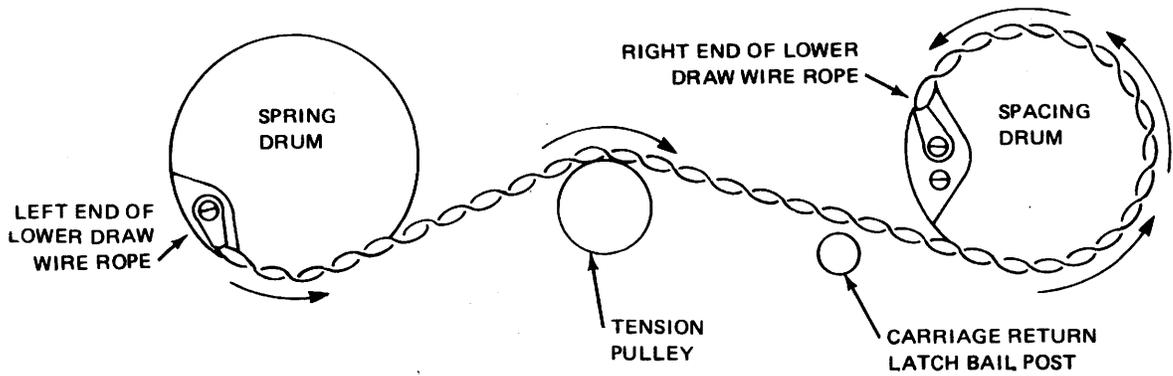

Figure 6-38. Lower Draw Wire Rope Route (Front View).
b. Remove screw and washer holding left end of rope to spring drum (see figure 6-38).
b. Move escapement lever manually up and down until all tension on spring in spring drum has been removed; record number of clicks required to unwind spring (see figure 6-38).